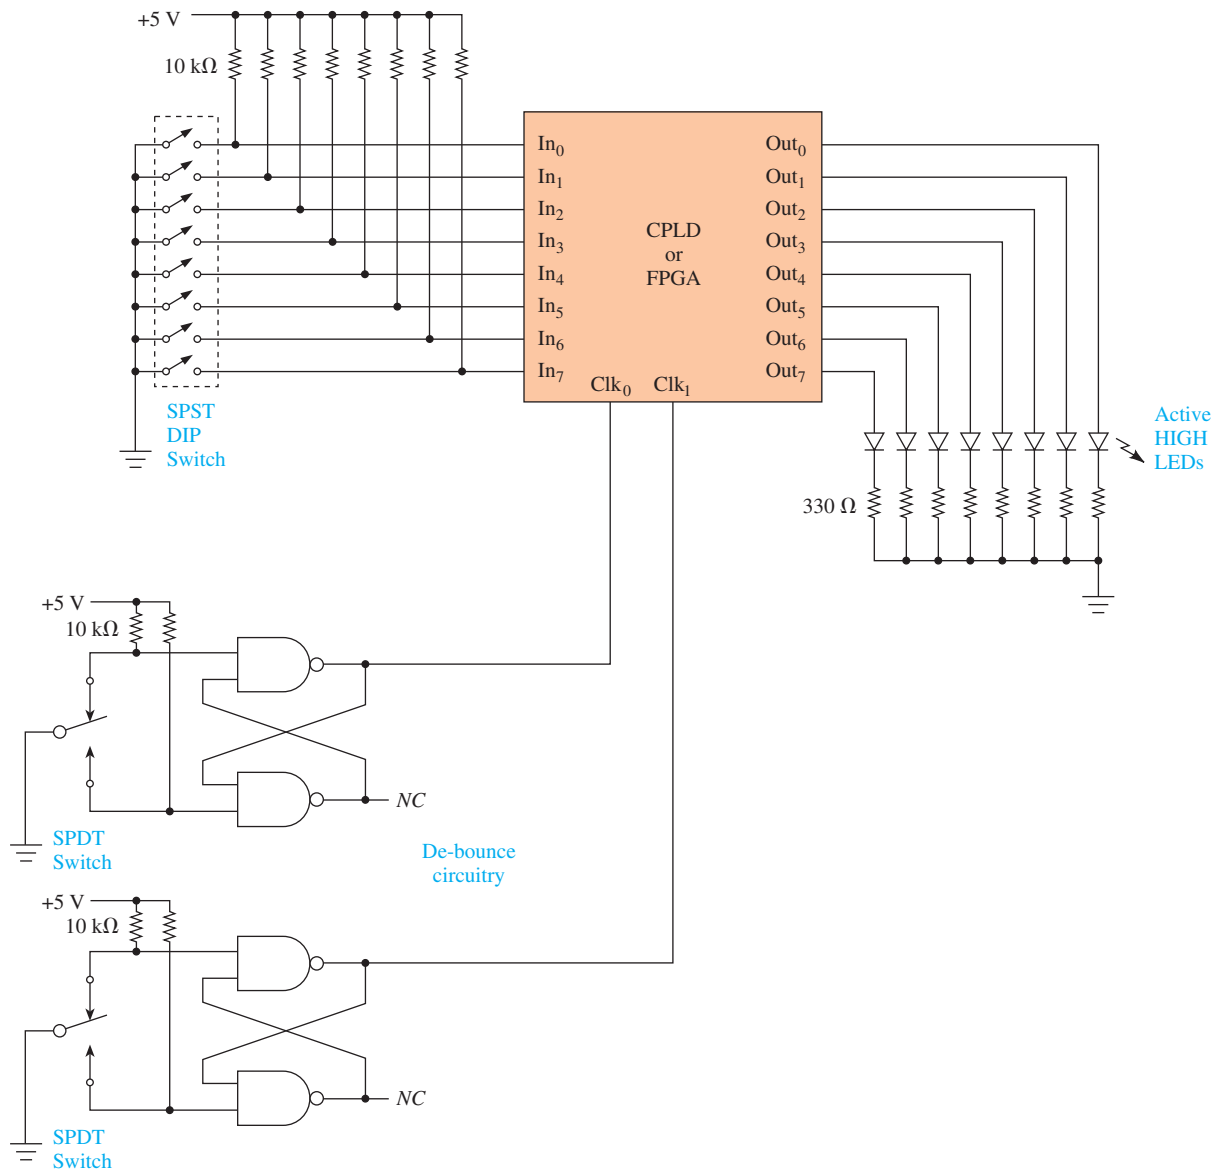

Figure 11–57 Multiple inputs and outputs connected to a CPLD or FPGA.
Figure 11–57 shows how multiple inputs and outputs can be connected to a CPLD or FPGA. A single-pole, single-throw (SPST) dual-in-line package (DIP) switch is used to input HIGH/LOW levels into the device. With all eight switches open, the pull-up resistors provide all HIGH levels to the inputs (In_0 through In_7). When any switch is closed, a LOW will appear on that input. Debounced clock inputs are provided at Clk_0 and Clk_1 by the cross-NAND *S-R* flip flop connections shown. When either SPDT switch (or SPDT push-button) goes from its down position to its up position, the level on Clk changes from LOW to HIGH. This level change on Clk makes only one transition even as the switch bounces. This single transition is very important if the clock input is connected to logic that counts each time the switch is moved from LOW to HIGH because including the bounces would give an inaccurate count result.
The LEDs shown in Figure 11–57 are connected as active-HIGH logic indicators. Unlike most 7400-series ICs, CPLDs and FPGAs are capable of sinking and sourcing far more than the 10 mA required to illuminate an LED. Outputting a HIGH at any output (Out_0 through Out_7) will source current through the corresponding LED and 330- Ω limiting resistor, turning that LED ON. (The display can be made active-LOW by reversing the LEDs and changing the ground connection to V_{CC} .)
- 11–13.** The zener diode serves two purposes in the pulse generator design in Figure 11–44. What are those purposes?